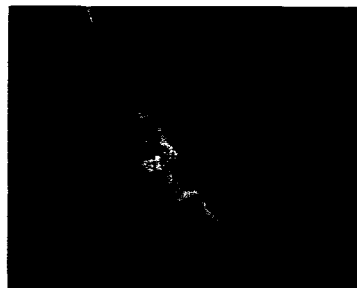

Figure 5 – Wired 3-Wire Connector
5. Plug the male 3-wire connector from the Low Water Cut-Off relay into the female 3-wire connector with brown, red, and white wires. See Figure 5.